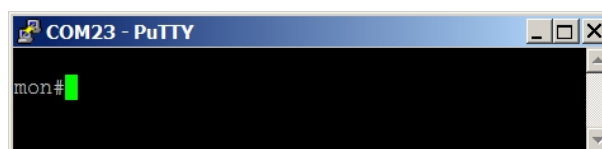

Figure 4: Open terminal window for module configuration via serial line
Click on „Open” button in „PuTTY” program and open the terminal window. After pressing of „ENTER” key there will appear a „prompt” command, which announces that the module is ready to be configured (see figure 4).
- the command must be entered only when a prompt for command appears in front of the cursor mark (colored or flashing little square) - see figure 4;